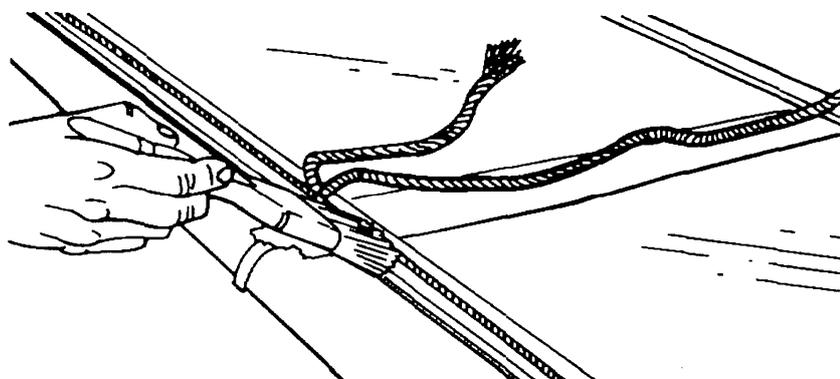

Figure 103 Rubber Seal Applying Soap Solution
- g. Using a solution of soap and water, lubricate the rope and rubber thoroughly (Figure 103).